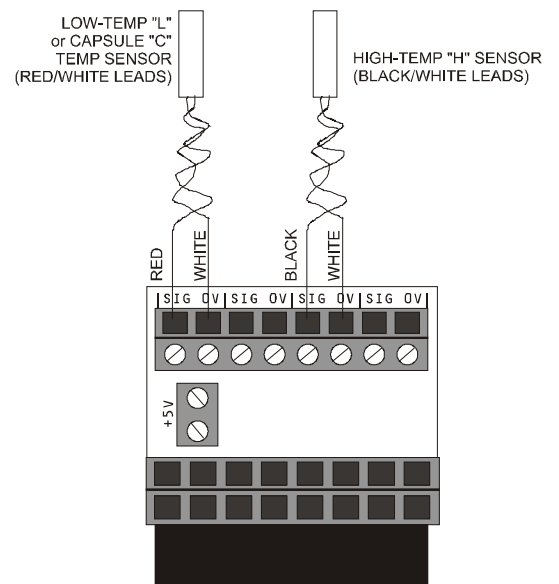

Figure 2 - Temp Sensor Wiring
2. Each ECI Temp Sensor Adapter has four pairs of screw terminals for connection to up to four ECI temperature sensors. Wire the leads of each sensor to the matching points on the adapter as shown in **Figure 2 - Temp Sensor Wiring**.